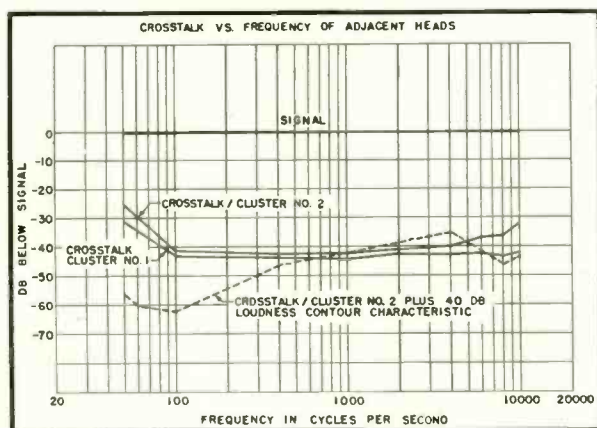

Fig. 6. Measured performance of clusters with respect to crosstalk between adjacent heads.
(5) *Cross-talk of adjacent heads.* The curves of Fig. 6 depict the signal-to-crosstalk ratio between adjacent heads. This measurement was made by recording frequencies at a level 10 db below 100 per cent modulation on head No. 3 of cluster No. 1 and No. 2. While recording on head No. 3, normal recording bias without signal was applied to the adjacent heads No. 2 and No. 4. Subsequently, heads No's 2, 3 and 4 were used as reproducing heads and the output levels obtained from the three adjacent tracks were noted. In Fig. 6, the line marked SIGNAL indicates the output from the track on which the various frequencies had been recorded. Below the signal reference line, two curves are shown which indicate the outputs that had been obtained when playing back the
The crosstalk values shown on Fig. 6 appear more than adequate for motion picture presentation in auditorium-type theaters. This is based on the findings by Mueller,¹ which show that the useful volume range for dialog in a theater is of the order of 25 db, and that even for music this range never exceeds 35 db. In the case of review rooms, in which the audience noise is from 30 to 35 db above hearing threshold, compared to 40 to 45 db in auditorium-type theaters, the use of magnetic decouplers may prove desirable.